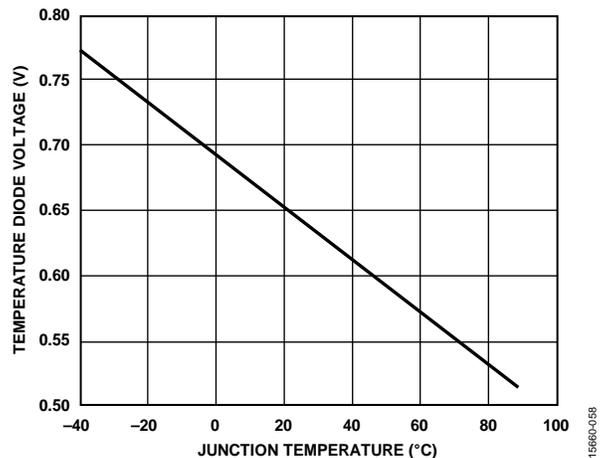

Figure 87. Typical Voltage Response of the 1x Temperature Diode
7. Set Register 0x18E6 to 0x01 to turn on voltage export of the central 1x temperature diode. The typical voltage response of the temperature diode is shown in Figure 87. Although this voltage represents the die temperature, it is recommended to take measurements from a pair of diodes for improved accuracy. The following step explains how to enable the 20x diode.